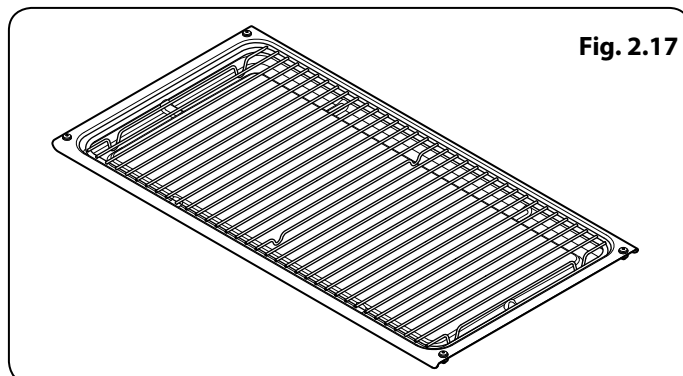

Fig. 2.17
- One broiler tray with grid (**Fig. 2.17**)